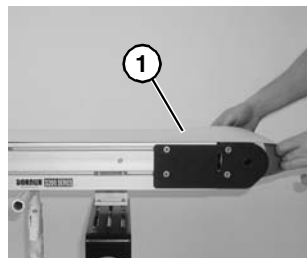

Figure 33
3. Install belt (**Figure 33, item 1**) on conveyor. Lift conveyor slightly to avoid pinching belt on temporary support stands.